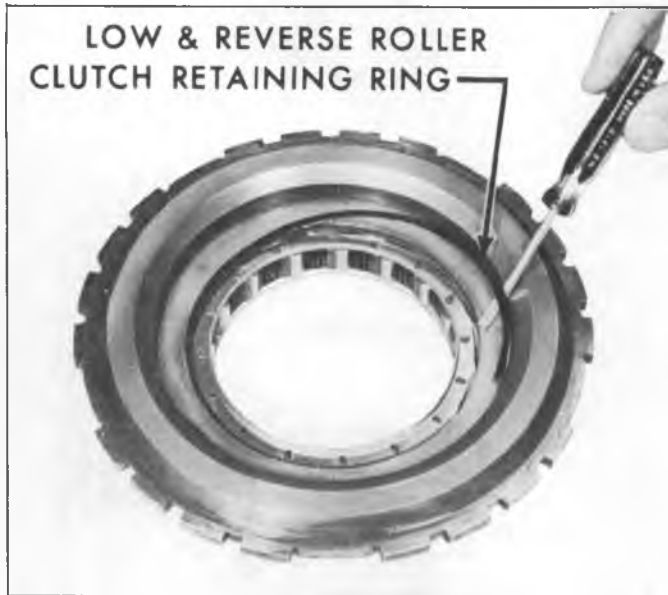

Fig. 93M--Removing Overrun Roller Clutch Retaining Ring
3. Remove low and reverse clutch roller clutch retaining ring (fig. 93M).